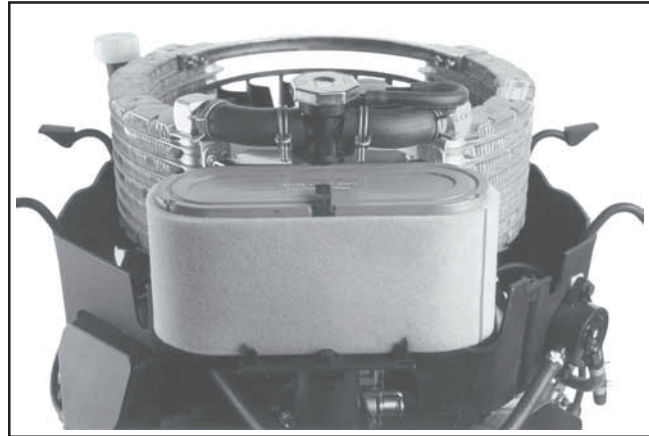

Figure 4-5. Air Cleaner Assembly.
These engines are equipped with a replaceable, high-density paper air cleaner element surrounded by an oil, foam precleaner, located under the upper blower housing. See Figures 4-5 and 4-6.
**Daily or before starting the engine**, remove the upper blowing housing and check the air cleaner system. See Figures 4-5 and 4-6. Again, check for dirt or debris and clean it away. Make sure the precleaner is not damaged, ripped, or missing. The air cleaner elements must be fastened with the retainer strap, and the bottom of the element must be sealed against the air cleaner base. Make sure the base is secured tightly to the carburetor and not cracked or damaged. Also make sure the breather hose is secured to the air cleaner base and to the breather outlet fitting on the valve cover.